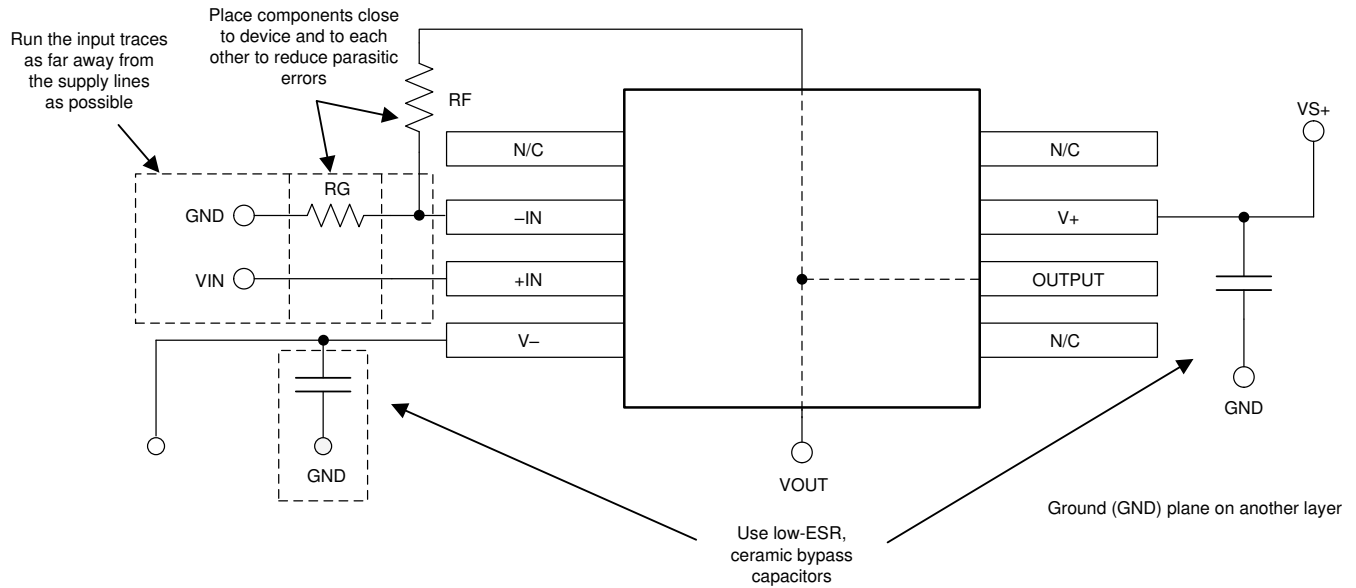

图 10-2. Operational Amplifier Board Layout for Noninverting Configuration
- Place the external components as close as possible to the device. As illustrated in Figure 10-2, keep RF and RG close to the inverting input to minimize parasitic capacitance.